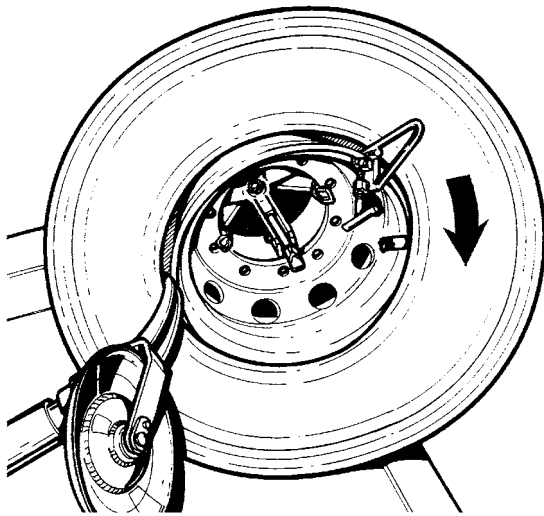

Fig.28
3. Lift the chuck arm and position the mounting hook or tubeless roller approximately 1.5 cm (1/2") to the inside of the rim edge and approximately 1.5 cm (1/2") away from the rim edge (fig.28).